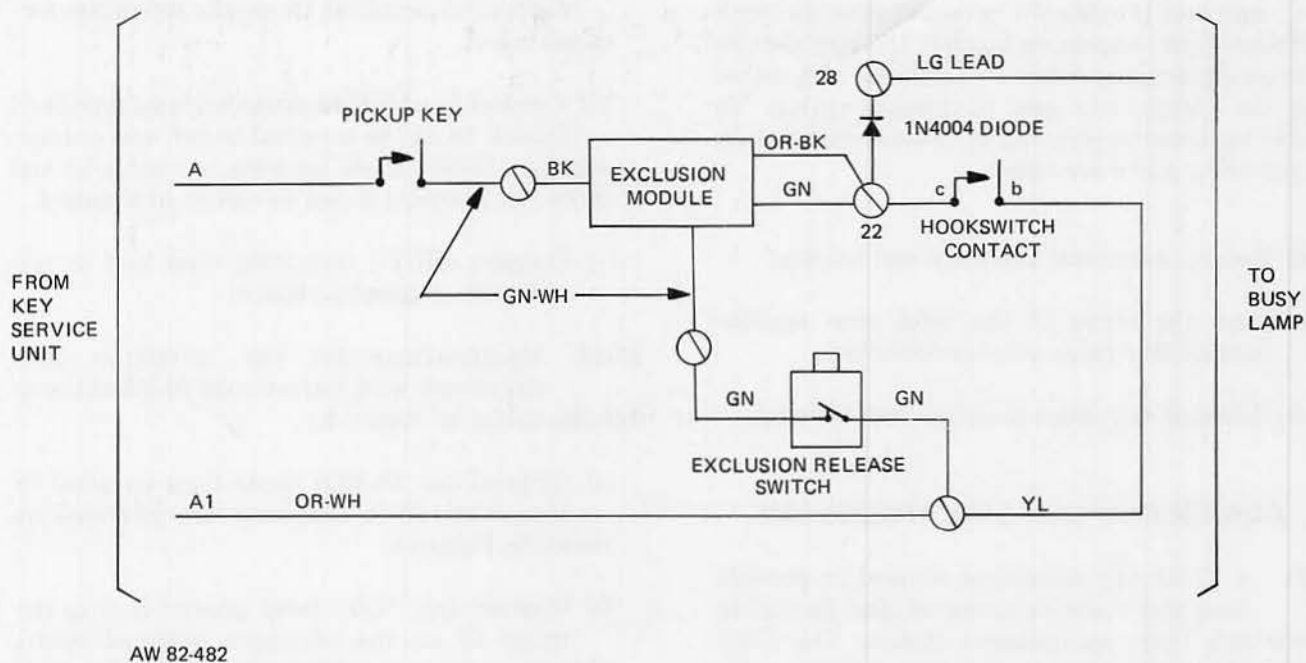

Figure 5: Busy Lamp Connections For 10-Button Telephones with Feature Code 76
11.02 Modifications for the 10-button desk telephones with feature code 76 should be as follows: (Refer to Figure 5.)
- (a) Connect one 1N4004 diode from terminal 22 to terminal 28 on telephone terminal board as shown in Figure 5.